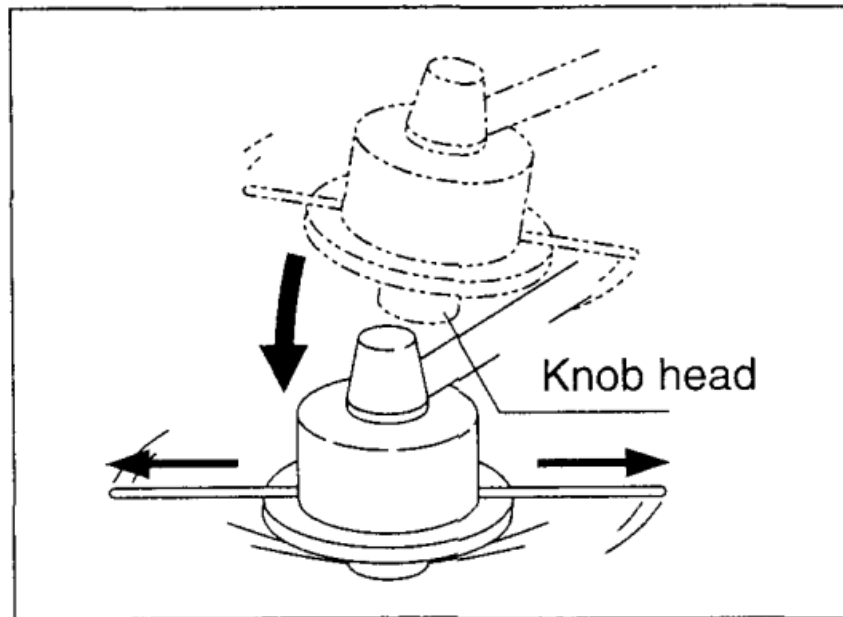

Fig. 21
2. When the nylon cord wears down (becomes short), decrease the engine speed to under 4,000 RPM and bump the knob of the nylon cutting head against the ground to feed out the nylon cord (Fig. 21).